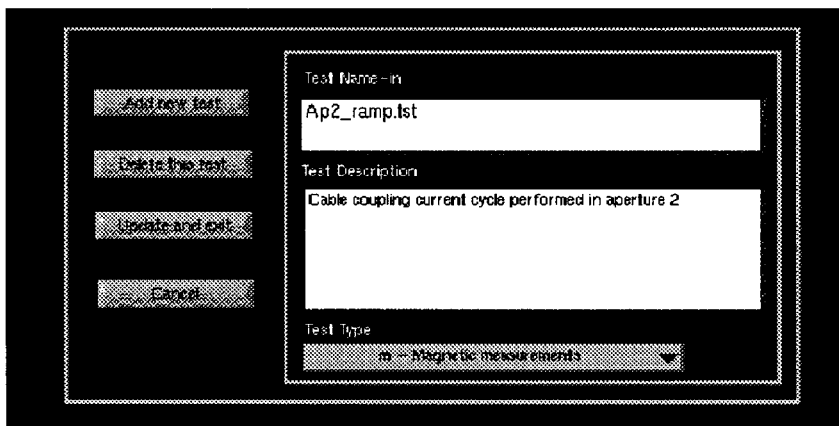

Fig. 12. Test Editor sub panel
To delete the predefined test, it should be loaded first as described in the previous section. Then the loaded test can be deleted using the test editor subpanel as follows: Initiate test editor subpanel by clicking the master icon of the main panel. Test edit subpanel will appear in the screen as shown in the Fig.12:
- Initiate test editor sub-panel by clicking the master icon of the main panel. Test edit sub panel will appear in the screen as shown in the Fig.12.